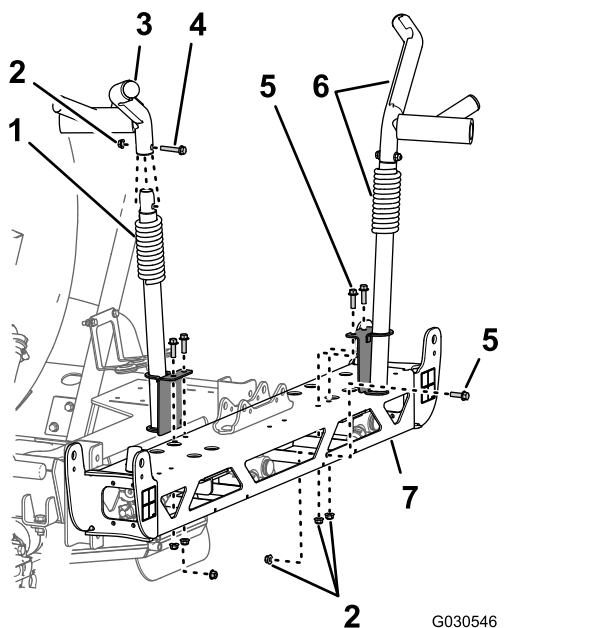

Figure 77
1. At the left boom cradle, remove the flange-head bolt (3/8 x 2 inches) and flange locknut (3/8 inch) that secure the left upper cradle assembly to the lower cradle assembly (Figure 77).
- Remove the 3 flange-head bolt (3/8 x 2 inches) and 3 flange locknut (3/8 inch) that secure the left lower boom cradle to the frame of the center boom section, and remove the cradle (Figure 77).
- At the right cradle, remove the horizontal and 2 vertical flange-head bolt (3/8 x 1-1/4 inches) and 3 flange locknut (3/8 inch) that secure the right boom-cradle assembly to the frame of the center boom section (Figure 77).